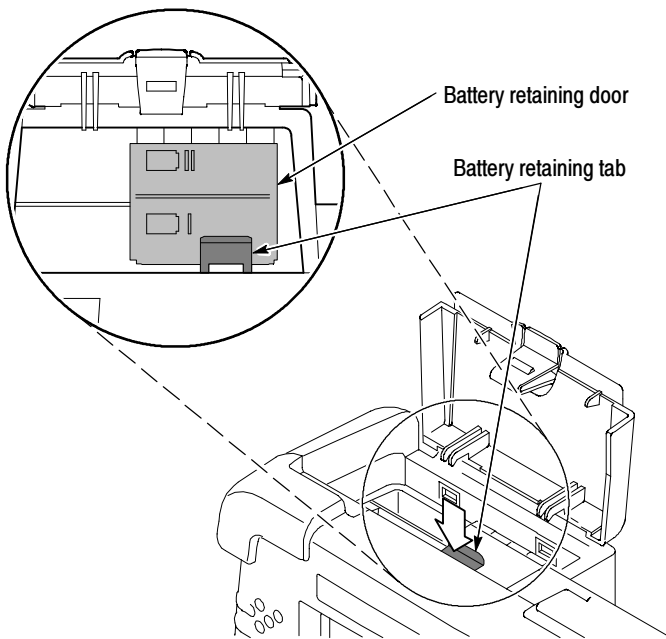

Figure 1-3: Battery retaining tab
4. Locate the battery retaining tab. See Figure 1-3.